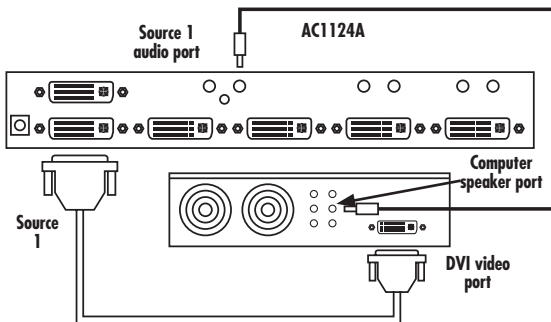

Figure 3-2. Linking the source's speaker port to the switch's source 1 audio port.
2. Connect the source's speaker port to the switch's source 1 audio port. See Figure 3-2.